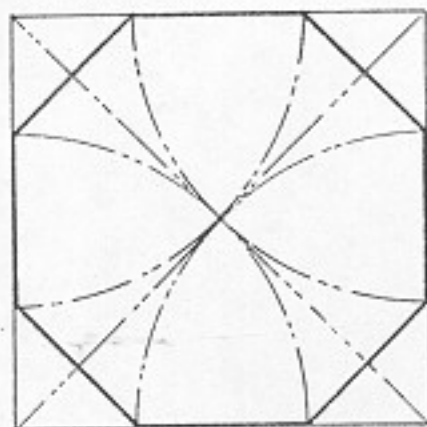

Fig. 53. Constructing an octagon from a square.
2. An octagon can be constructed from a square by striking arcs with each corner of the square as a center and half the diagonal as a radius. Connecting the ends of these arcs with a straight line across the corners of the square completes the figure (Fig. 53).